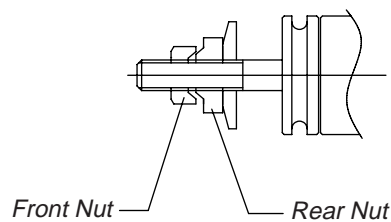

fig.2
- 1 Mount the propeller and tighten the rear nut. Next, tighten the front nut as shown in fig.2. The rear nut has an offset shoulder so the front nut will secure itself to the rear nut.